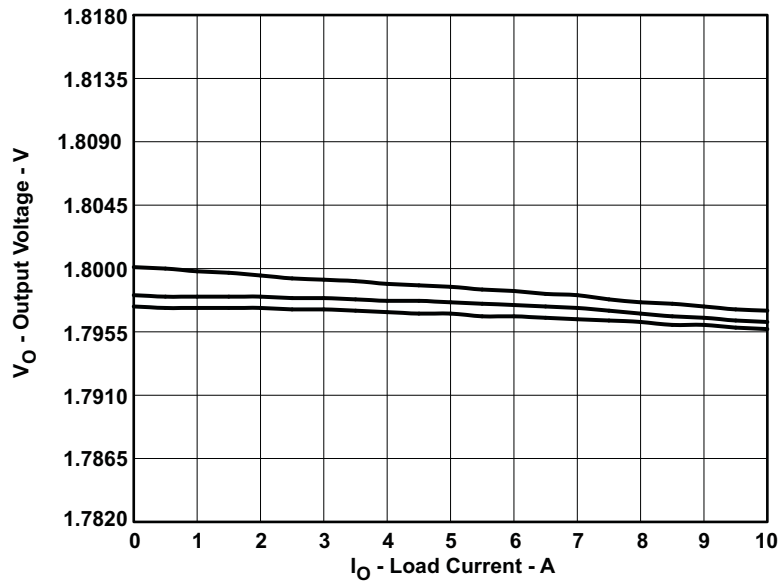

Figure 6. TPS40077EVM-001 Line and Load Regulation
1. Connect 1 kHz–1 MHz isolation transformer to TP3 and TP6 as shown in Figure 6
2. Connect input-signal amplitude-measurement probe (channel A) to TP3 as shown in Figure 6
3. Connect output-signal amplitude measurement probe (channel B) to TP6 as shown in Figure 6
4. Connect ground lead of channel A and channel B to TP8 as shown in Figure 6